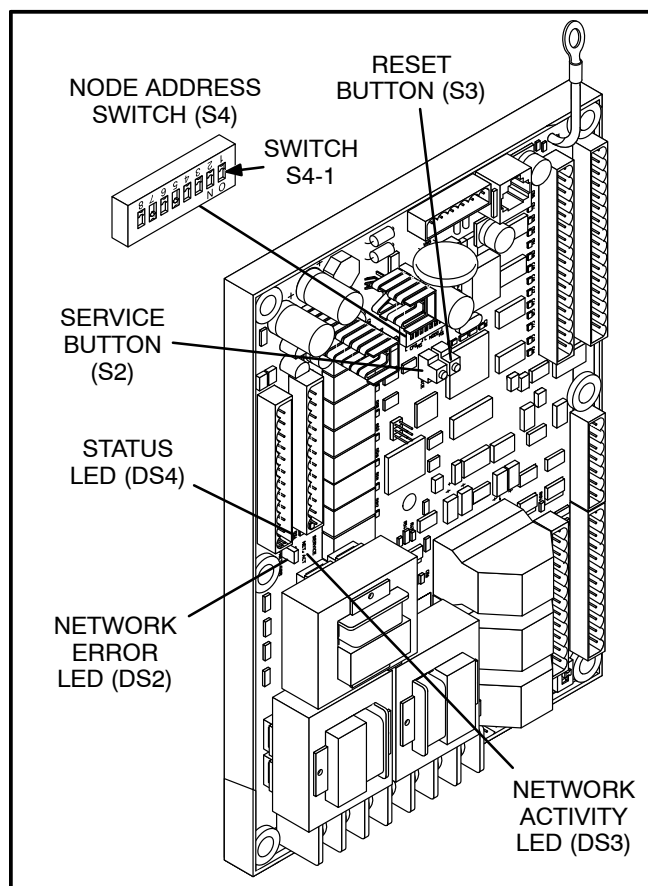

FIGURE 16-4. NODE ADDRESS SWITCH
Each node on a self-installed network must have a unique address. Switches 1 through 4 of switch S4 are used to set the *Node Address* (see Figure 16-4). The default node address is 0001, which is a “STATUS” LED pulse rate of 1.
After the device has been physically installed, the *Node Address* can be verified by counting the number of pulses of the “STATUS” LED (DS4) (see Figure 16-4). Make sure each device has a unique node address.
4. Press and hold the *Service* button (S2) (see Figure 16-4) for approximately two seconds until the *Status* LED (DS4) begins flashing.
To verify the genset has installed itself properly and is bound to the ATS, disconnect the twisted-pair data cable at J30. The “Network Error” LED (DS2) (see Figure 16-4) should turn on (red) within 10 seconds. This indicates communications have failed and that the device was properly bound.